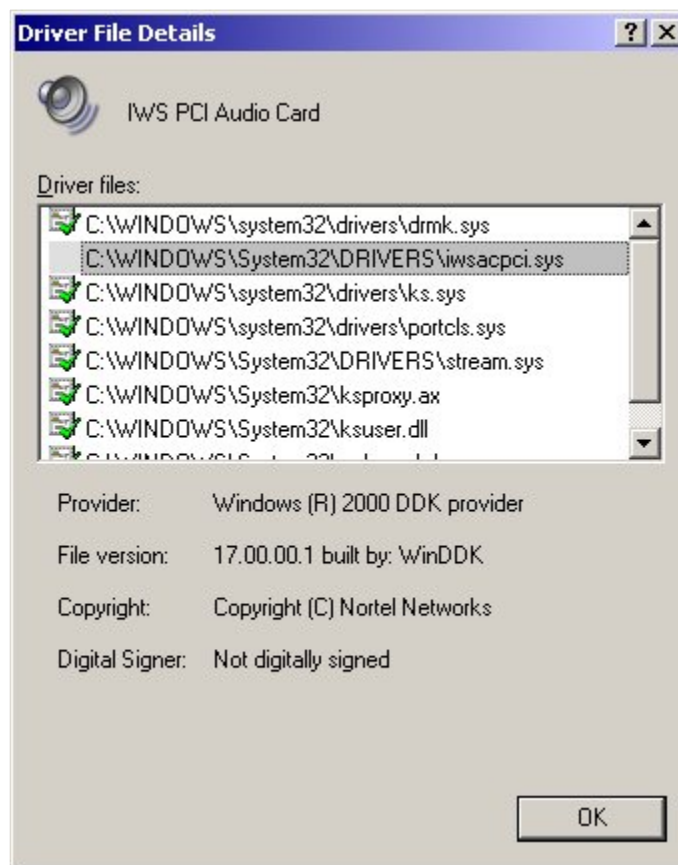

FIGURE 224. Driver File Details
12. The window as in Figure 224 should appear.